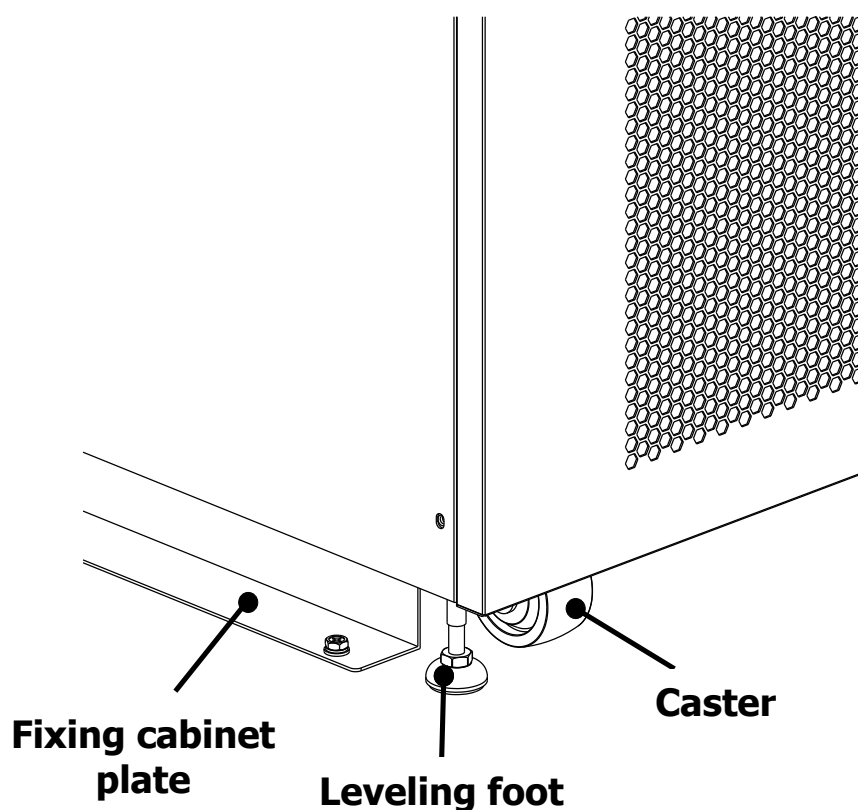

Figure 2-6
7. One can re-use the 2 fixing cabinet plates to fix the cabinet firmly to the ground. Refer to Figure 2-6.